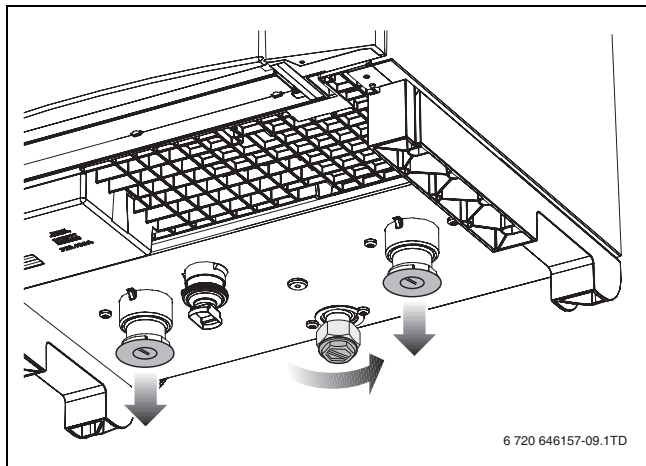

Fig. 10 Removing the covers - boiler bottom
- Remove the protective covers from the bottom of the boiler (→ fig. 10).